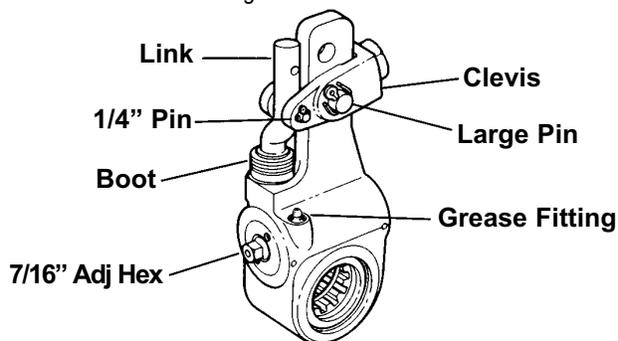

Figure 10 - Location of Clevis Pins, Hex & Boot
3. The unit must be replaced if less than 15 ft-lbs of torque exists when turning the 7/16" adj hex counterclockwise. Refer to the test as described under "Troubleshooting and Boot Replacement" - Figure 10 on Page 15.
4. Never operate the vehicle with small 1/4" pin missing from the clevis. The brake adjuster will not maintain proper brake adjustment with either pin missing. (See Figure 10 on Page 15).